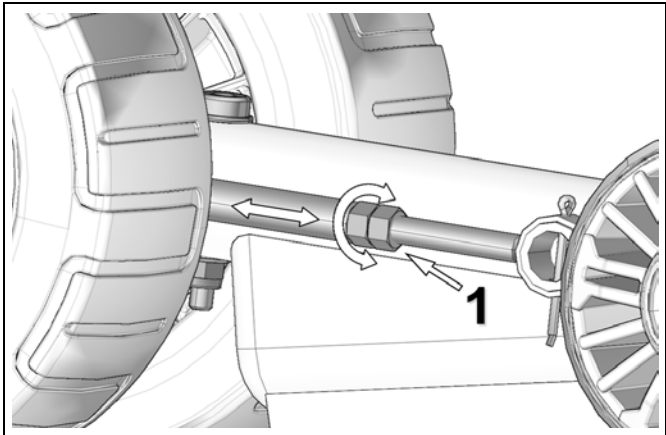

Figure 29
Loosen jam nut (1) and turn adjusting nut to set track tension. See Figure 29.